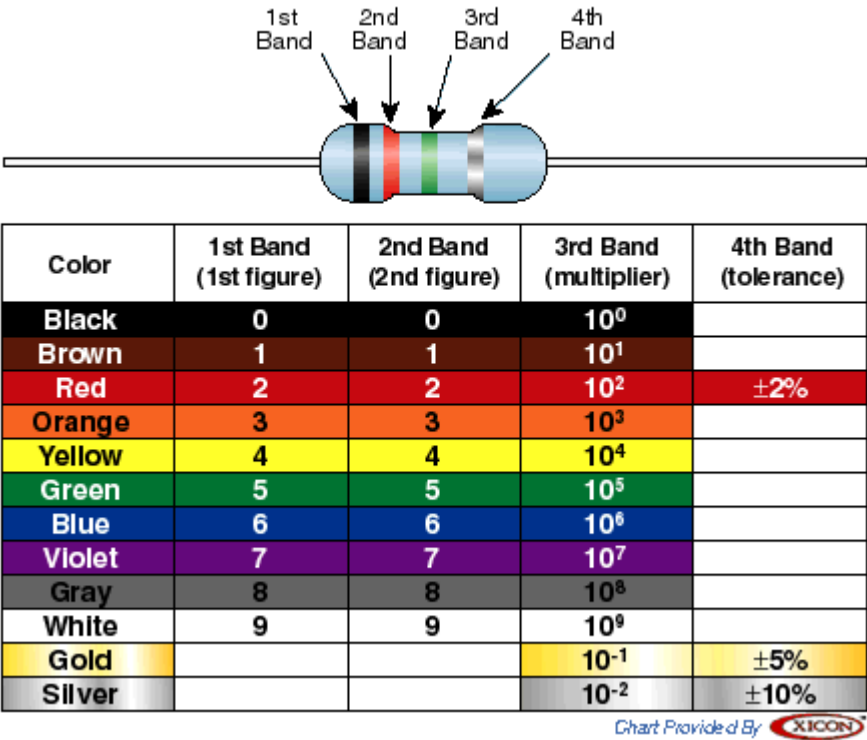

Figure 1- Colour code chart for resistor bands. The value has the unit Ω
- 100 Ω resistor (See Figure 1 for the band colour codes.)
- The 100 Ω resistor is in series with the LED. See Figure 1 for the band colour codes.